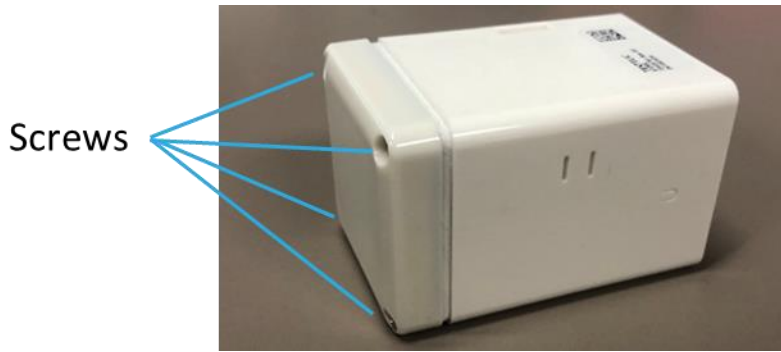

Figure 2-5: Removing the Battery Cover Screws
1. Remove the battery cover by unscrewing the 4x Phillips head screws using a size #1 Phillips head screwdriver (see Figure 2-5).